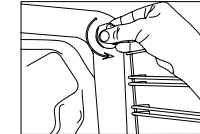

Figure 14
3. Reinstall glass protection, plug the power cable of appliance into electrical socket and complete replacement. Now you can use your oven. (Figure 14)